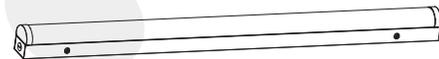

Figure 12
Step3. Connect the wires according to the wiring instructions, adjust sensing mode as per demand and then assemble the disassembled lamp back. (Figure 12)